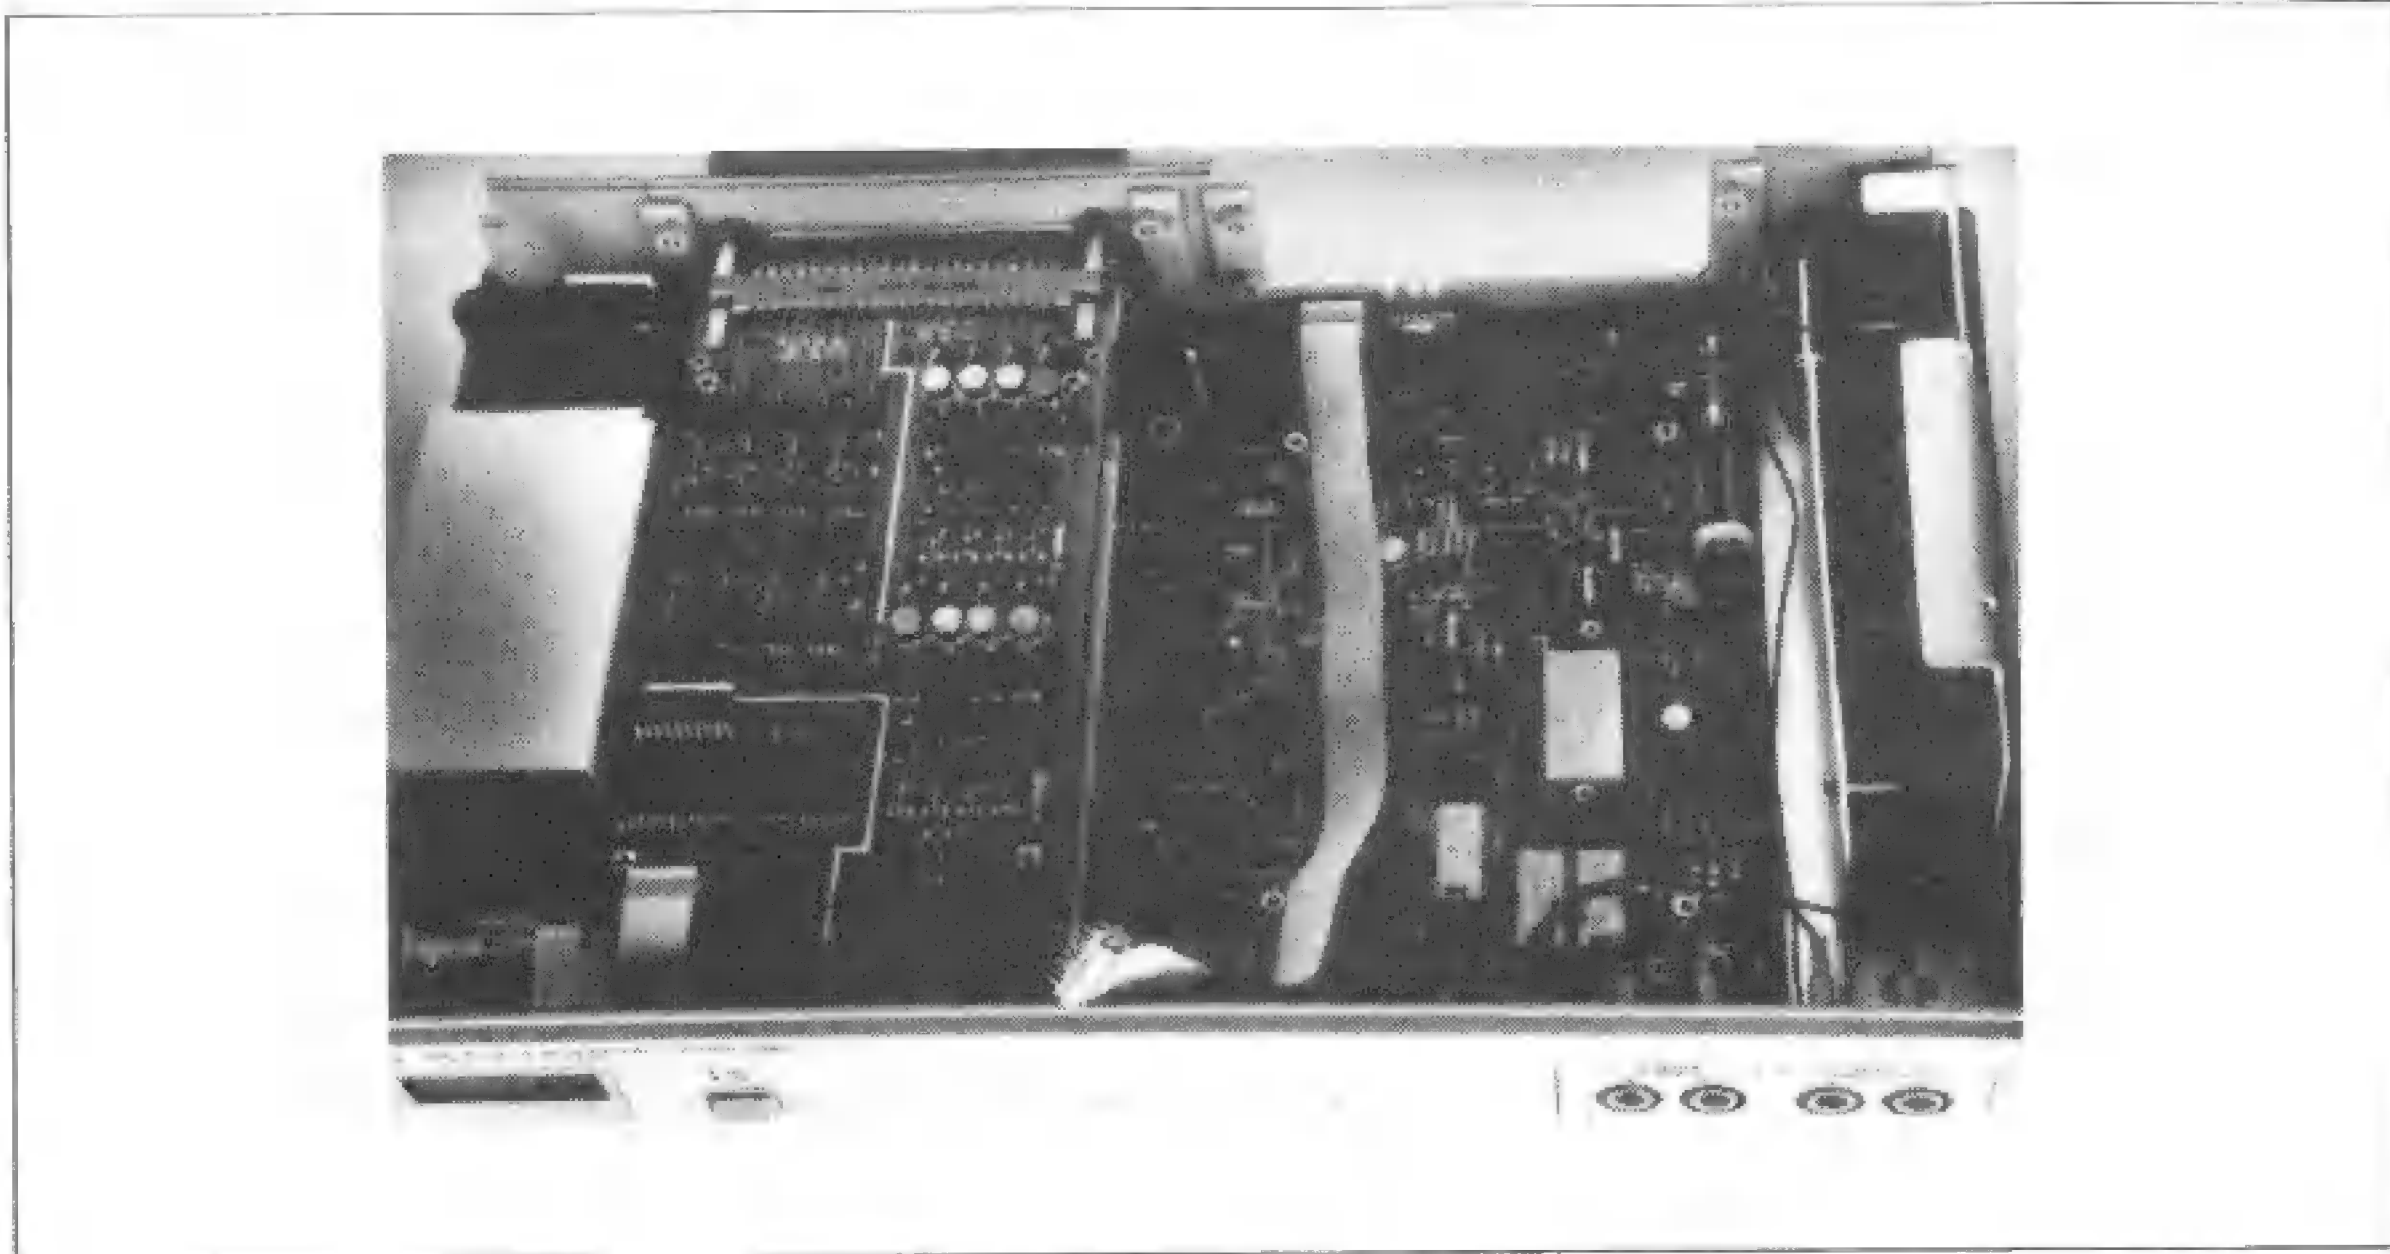

**Figure 3-2-6. Slot 2 Option Cable Routing**
a. If the HP 3421A has an HP-IB or 12 Vdc Power Adapter Option installed and it was not previously removed, place the slot 2 option on top of either the HP-IB or 12 Vdc Power Adapter Option. If the HP 3421A does not have either an HP-IB or 12 Vdc Power Adapter Option, place the slot 2 option directly on top of the bottom shield's standoffs. First, however, make sure the slot 2 option cable is routed as shown in Figure 3-2-6. The cable's red stripe should be oriented to the the right (pin 7 of the motherboard connector).